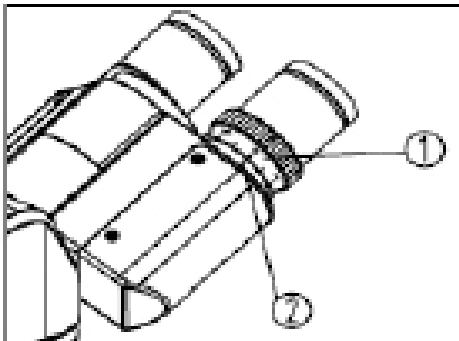

Fig. 12
Observe the right eyepiece with the right eye, focus it with the fine focus until the image is clear. Then observe the left eyepiece with the left eye, if the image is not in focus, rotate the diopter adjustment ring (1) until the image is clear (See Fig.12).